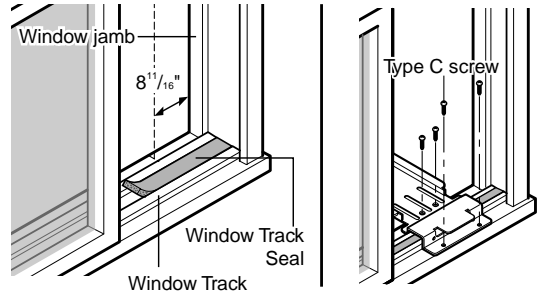

Figure 23
2. Remove protective backing from window track seal and apply seal to window track. (See Figure 23)
3. Measure and lightly mark a line 8-1/4" from window jamb. Center the support bracket assembly on the window track and fasten with 4-type C screws. (See Figure 23)